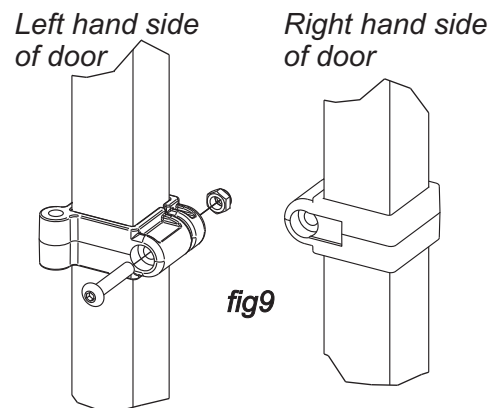

fig 9
19. The door frame(s) can be assembled with the diagram on page 2 to assist you. Before inserting the connectors ensure the hinge/latch blocks are inserted on the vertical bars as shown in (fig9).